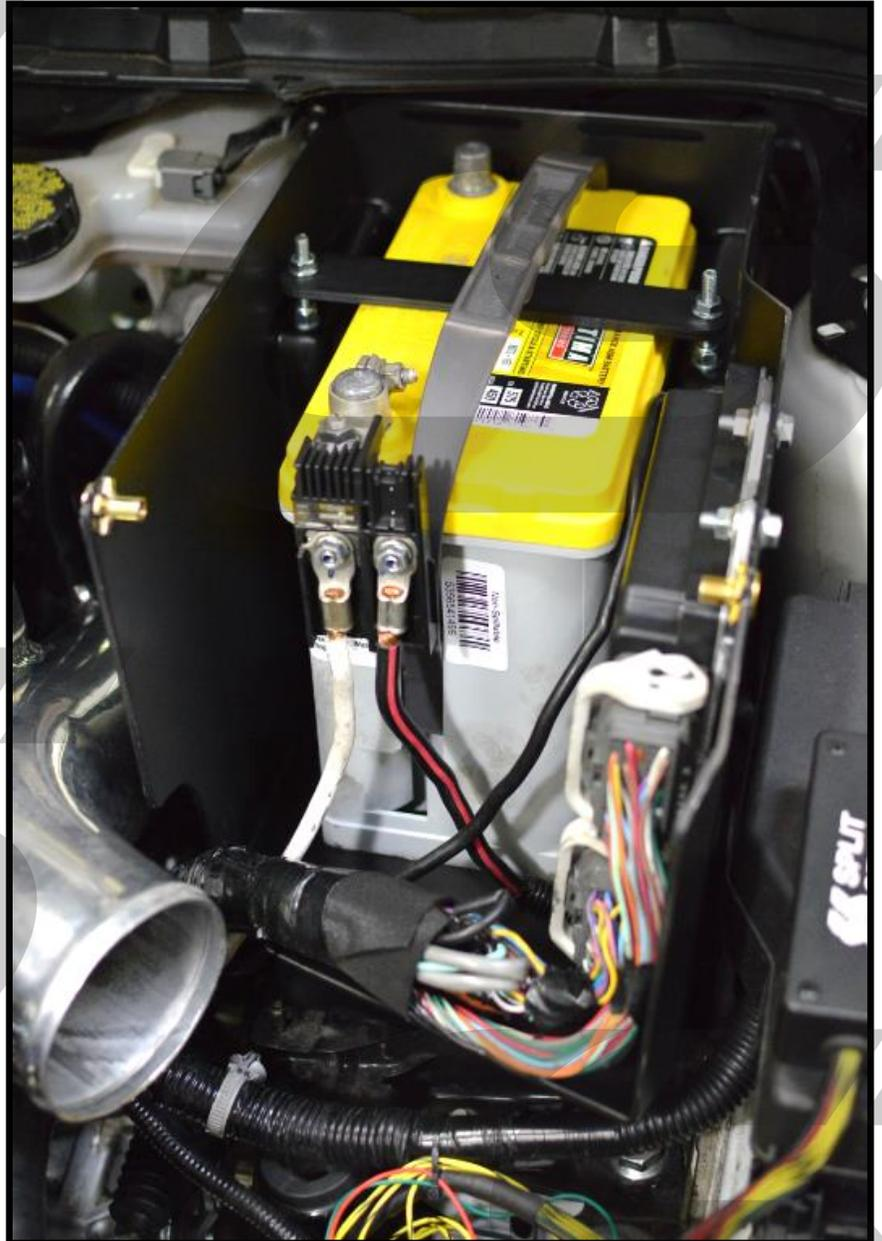

Figure 4c
e) Install the battery tie-down over the battery and the studs. Install the provided M6x1.0 flange nuts and tighten till snug. As shown in **Figure 4c**.
h) Route the ECU wiring harness as shown in **Figure 4c**. Connect wiring harness to the ECU.